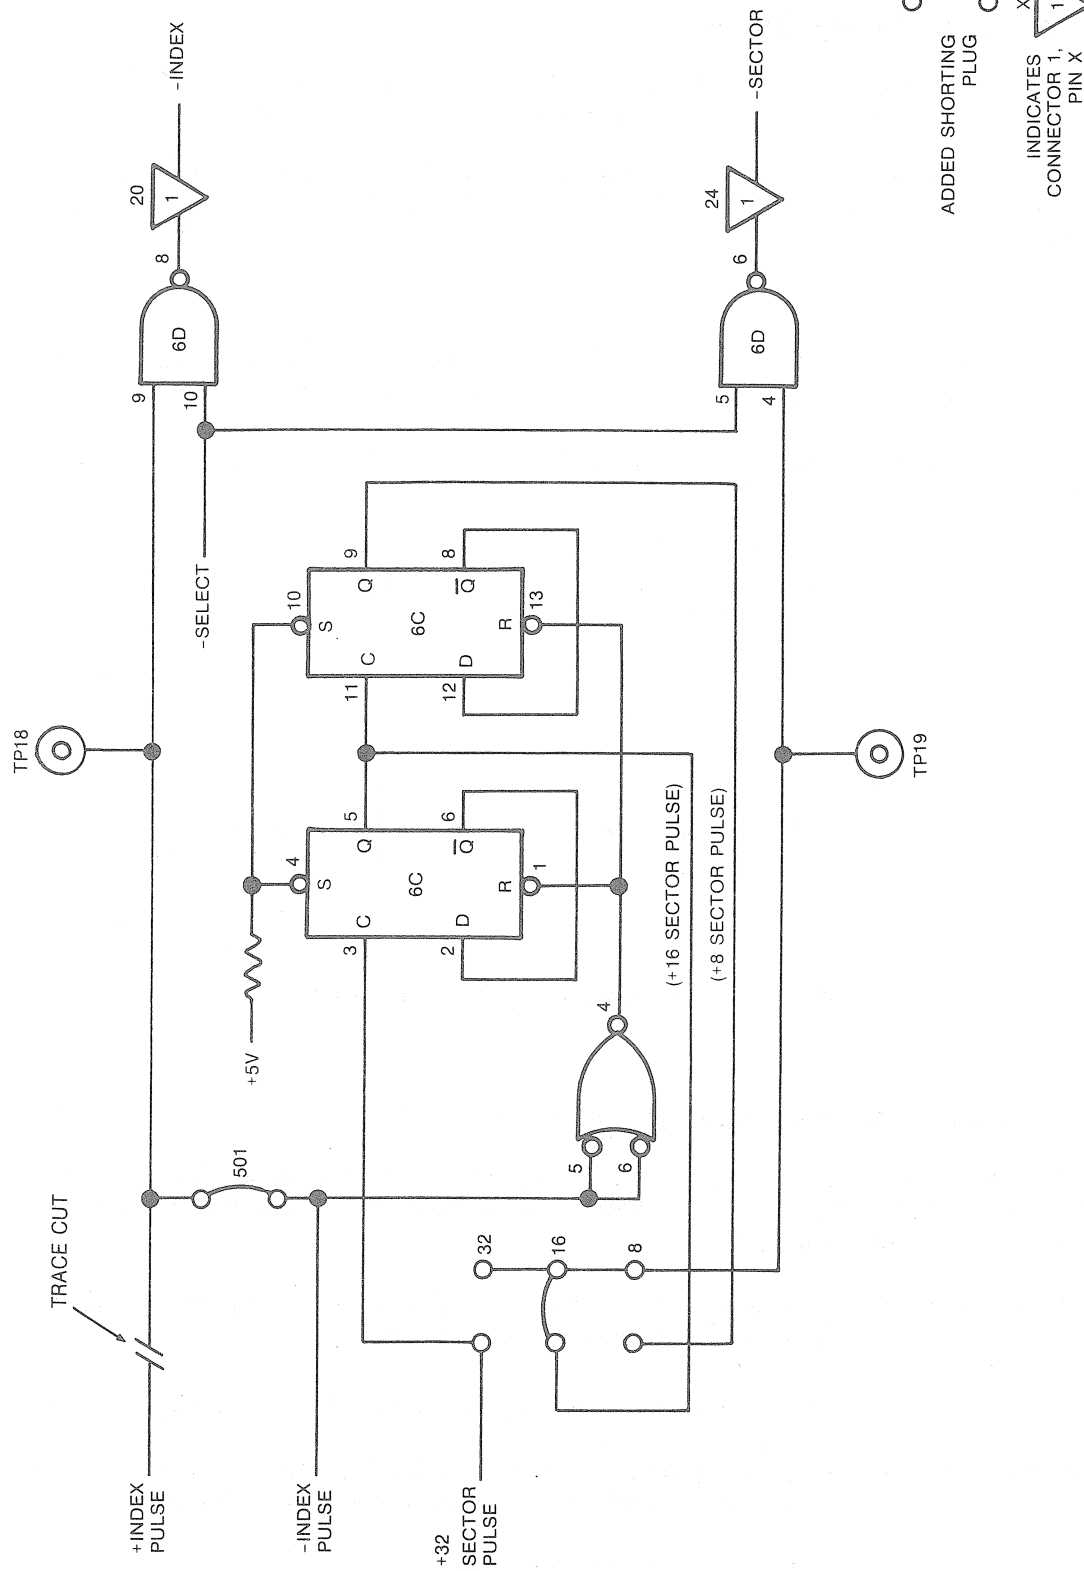

FIGURE 3-15. EXAMPLE OF HARD SECTOR WITH 16 SECTORS PER REVOLUTION
2. Connect a shorting plug on the terminals at "501" (see Figure 3-15).
3. Connect a shorting plug on the desired sector terminals—32, 16, or 8. An example of the hard sector option with 16 sectors per revolution is shown in Figure 3-15.